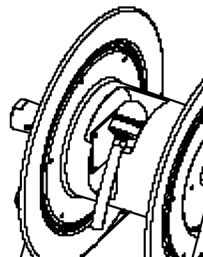

Fig 1.0
- 2.) Thread male hose fitting into outlet riser(s). Refer to figure 1.0. Challenger series 112,117,CM, DM and SM, outlet will be inside drum area. Note: Outlet riser is removable on 1195 series.